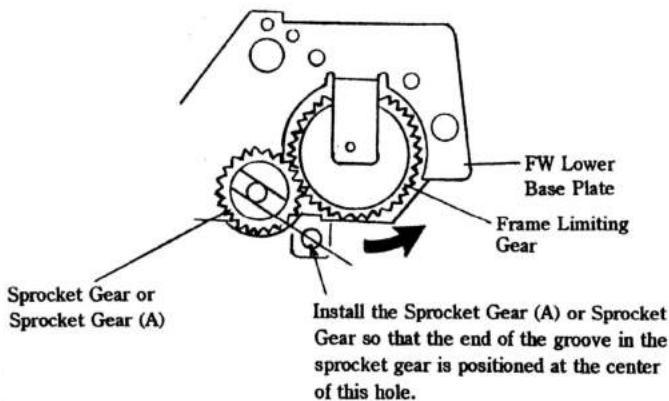

Fig. 66
- 2) Install the Sprocket Gear (A) (17436910) so that the end of the groove is positioned at the center of the screw hole in the FW Upper Base Plate.
- 3) When the Sprocket Gear (A) can not be installed in the position as shown in Fig. 66, install it in the 180 - degree turned position. If the Sprocket Gear (A) can not be installed even in the 180 - degree turned position, replace and install the Sprocket Gear (17437010). If even the Sprocket Gear can not be installed in the position as shown in Fig. 66, install it in the 180 - degree Qturned position.
- 4) After installing the Sprocket Gear (A) or Sprocket Gear in the correct position, install the Sprocket Gear Holder (1AM35120) and tighten the Sprocket Gear Holder Setscrews (61901826) × 2.